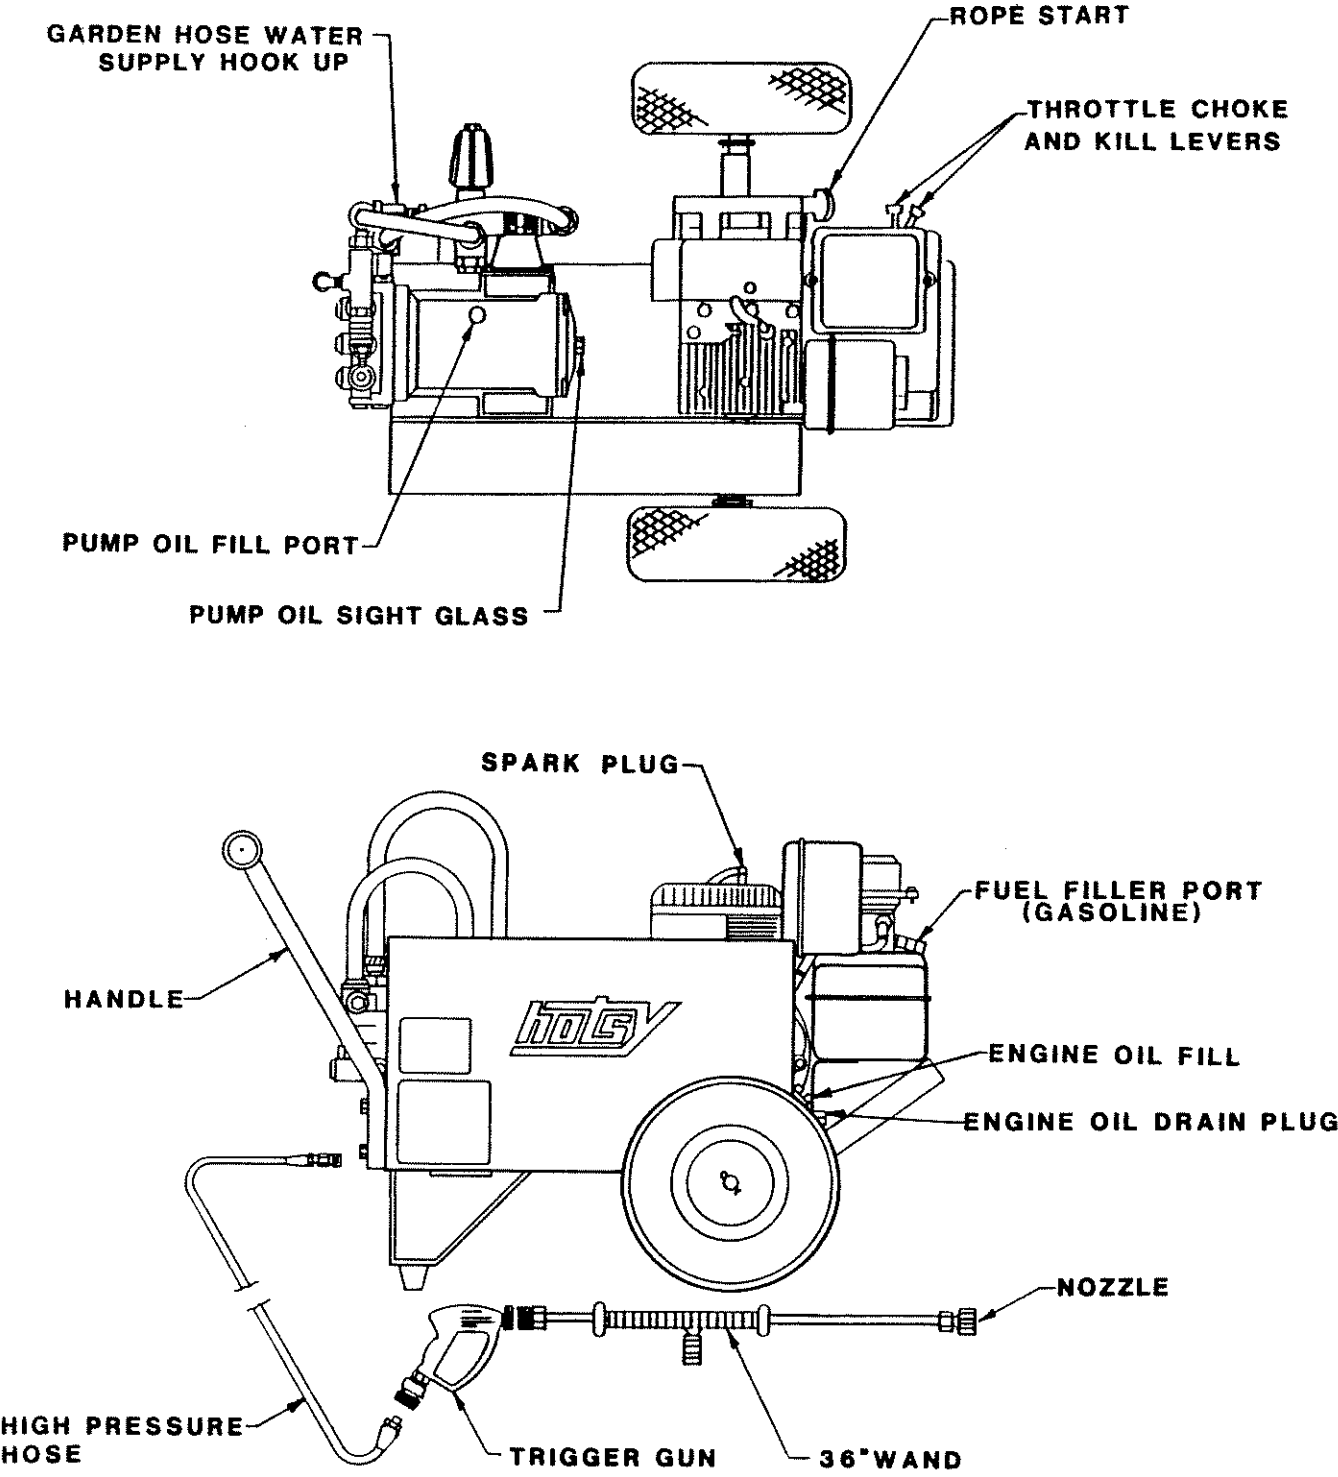

FIGURE 1
2. Move choke lever to full choke position (choke may not be needed on warm engine). Move throttle control 1/2 throttle. See FIG. 1.
**2. Remove "Oil Fill Plug "** and place it on a clean surface. Fill oil sump slowly, until it reaches the threads on the inside of the oil fill port. **DO NOT OVERFILL.** See FIG. 1.
**3. Check oil level every five (5) operating hours or each time equipment is used.** Add oil as necessary.
**4. Change Oil:** After first five (5) hours of operating, and every twenty-five (25) hours thereafter, or more often if operated in an extremely dusty or dirty area.
**5. Drain Oil:** Position equipment so that the engine oil drain plug (See FIG. 1) is at lowest point on engine. Remove oil drain plug and oil fill plug (while engine is still warm) and allow to drain completely.